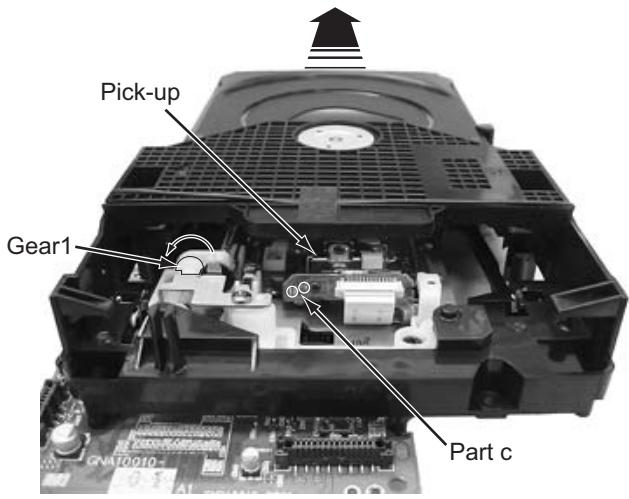
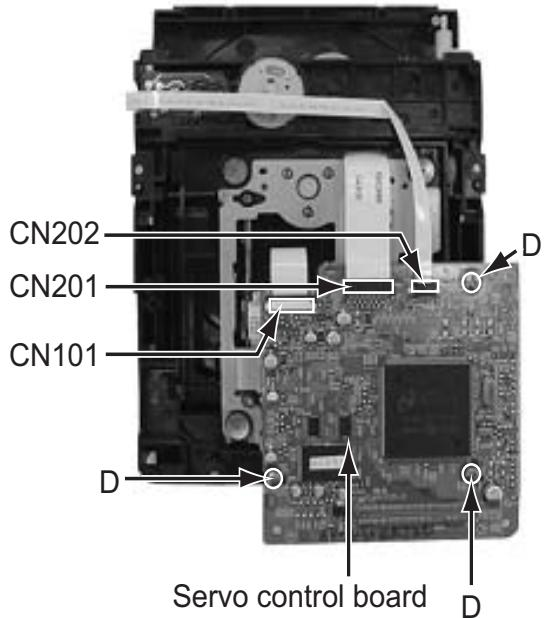

Fig.6
Fig.7
2.1.4 Removing the servo control board (See Figure 6, Figure 7)